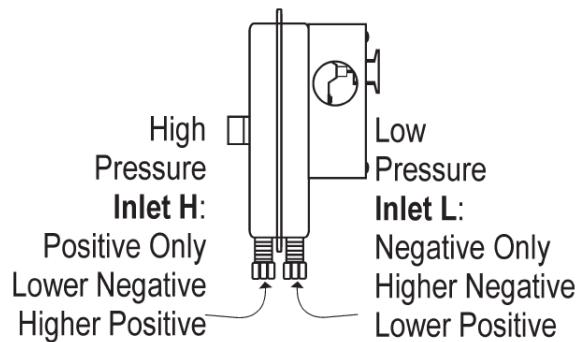

Figure 7
The sample line connections located on each side of the diaphragm accept 1/4" OD rigid or semi-rigid tubing via the integral compression ferrule and nut. However, an optional adapter (P/N 18311) is available for slipping on 1/4" ID flexible tubing. For sample lines up to 10 feet, 1/4" OD tubing is acceptable. For lines up to 20 feet, use 1/4" ID tubing. For lines up to 60 feet, use 1/2" ID tubing. Locate the sampling probe a minimum of 1-1/2 duct diameters downstream from the air source. Install the sampling probe as close to the center of the airstream as possible. Refer to Figure 7 to identify the high pressure inlet (H) and the low pressure inlet (L). Select one of the following five application options, and connect the sample lines as recommended.